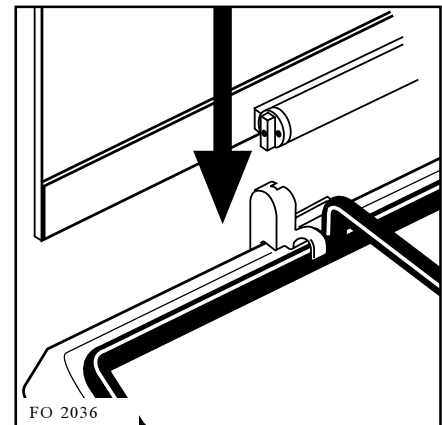

Fig. 12
- Fit the lid hinge blocks onto the hob, using the original screws, ensuring that the relevant shims are fitted between the hinge blocks and the hob (fig. 12);
- Fit the left hand lid hinge (marked S) into the hinge block (fig. 12);